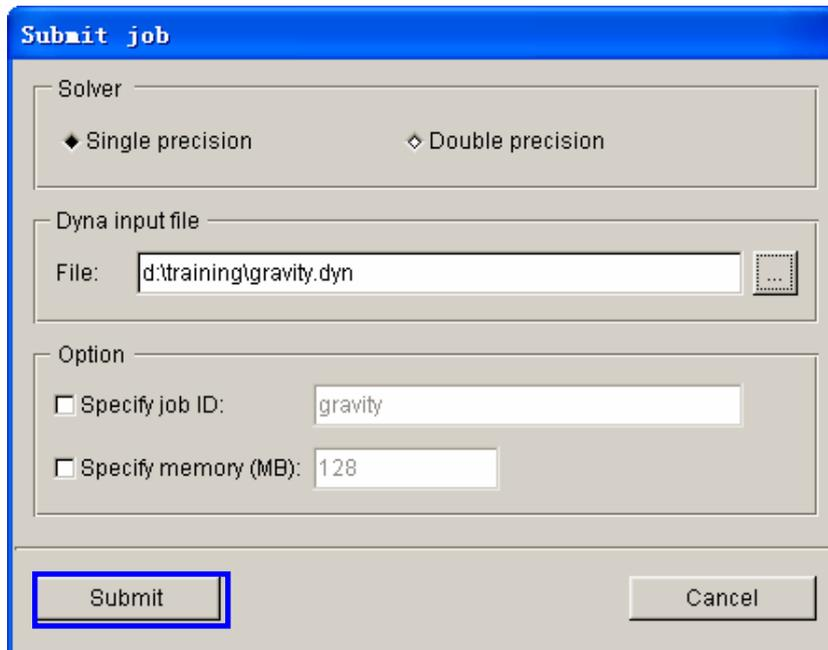

Figure 4.26 Submit job dialog box
3. The SUBMIT JOB dialog box illustrated in Figure 4.26 is displayed.